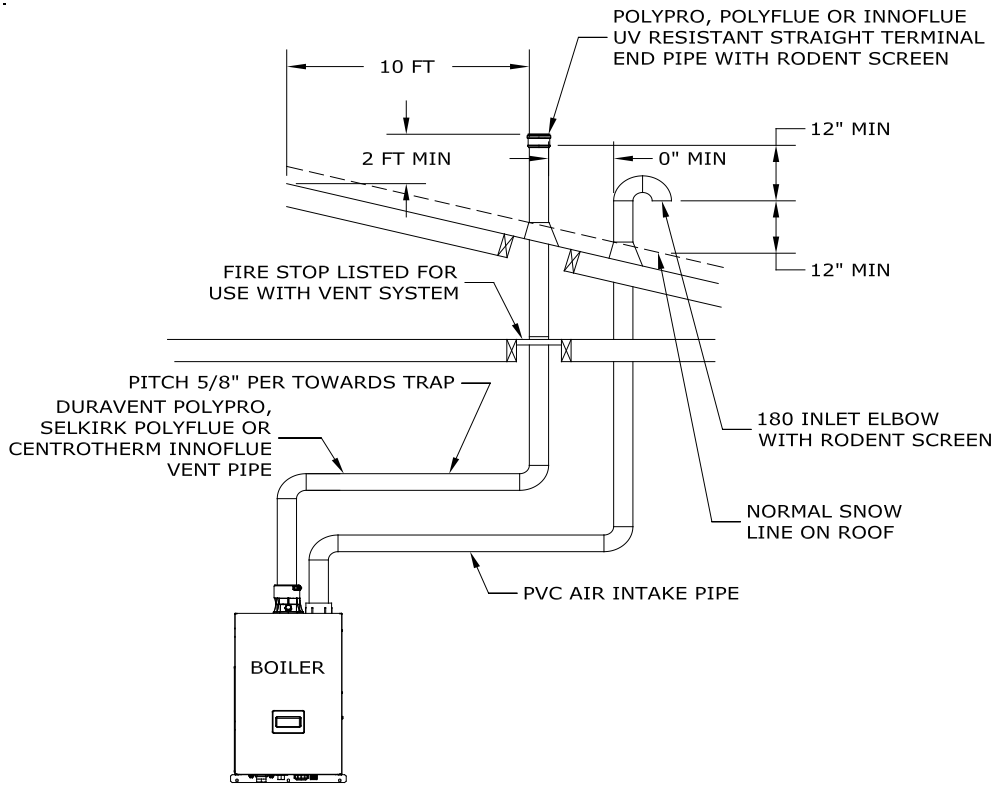

**Figure 7.15: Vertical CPVC/PVC Venting (Vent Option 5, Terminal Option H)**
- For terminal option H, maintain at least 12" of vertical separation between the exhaust and intake opening as shown in Figure 7.15 and 7.17.